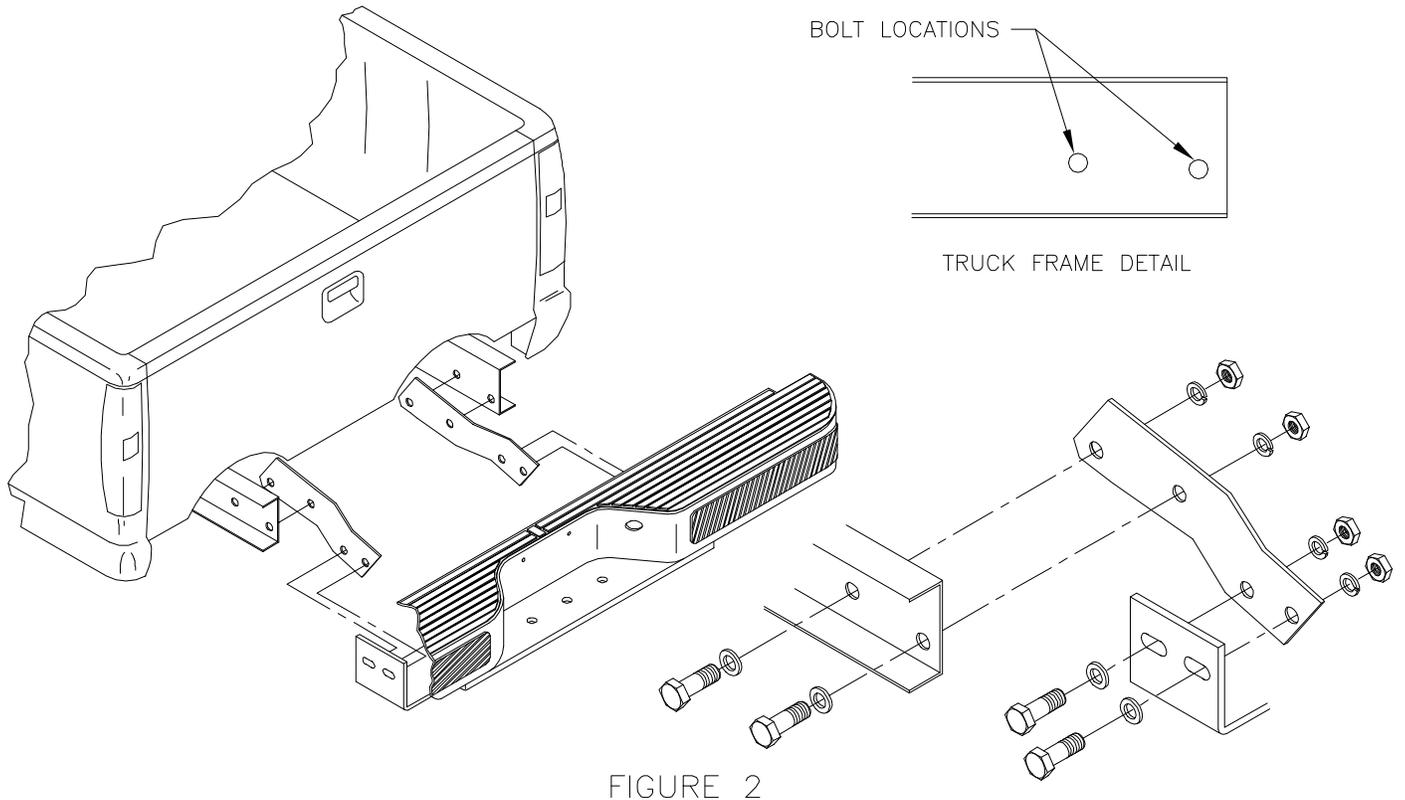

FIGURE 2
STEP 2: Install bumper onto mounting brackets with brackets inside of bumper hitch. See figure 2. Use remaining 1/2 inch hardware. DO NOT TIGHTEN.